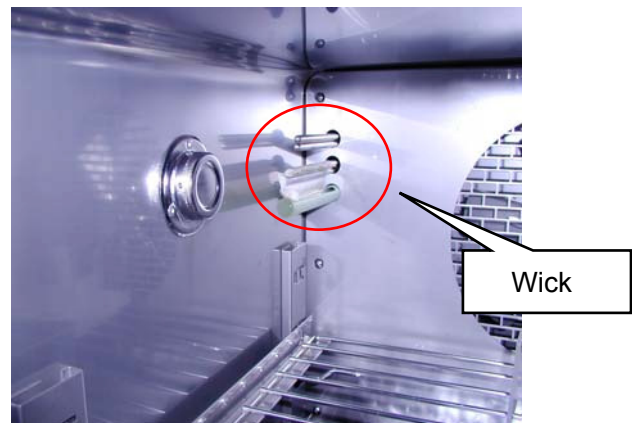

Fig.8
- d. Do not put samples under wick because water will fall.( Fig.8)